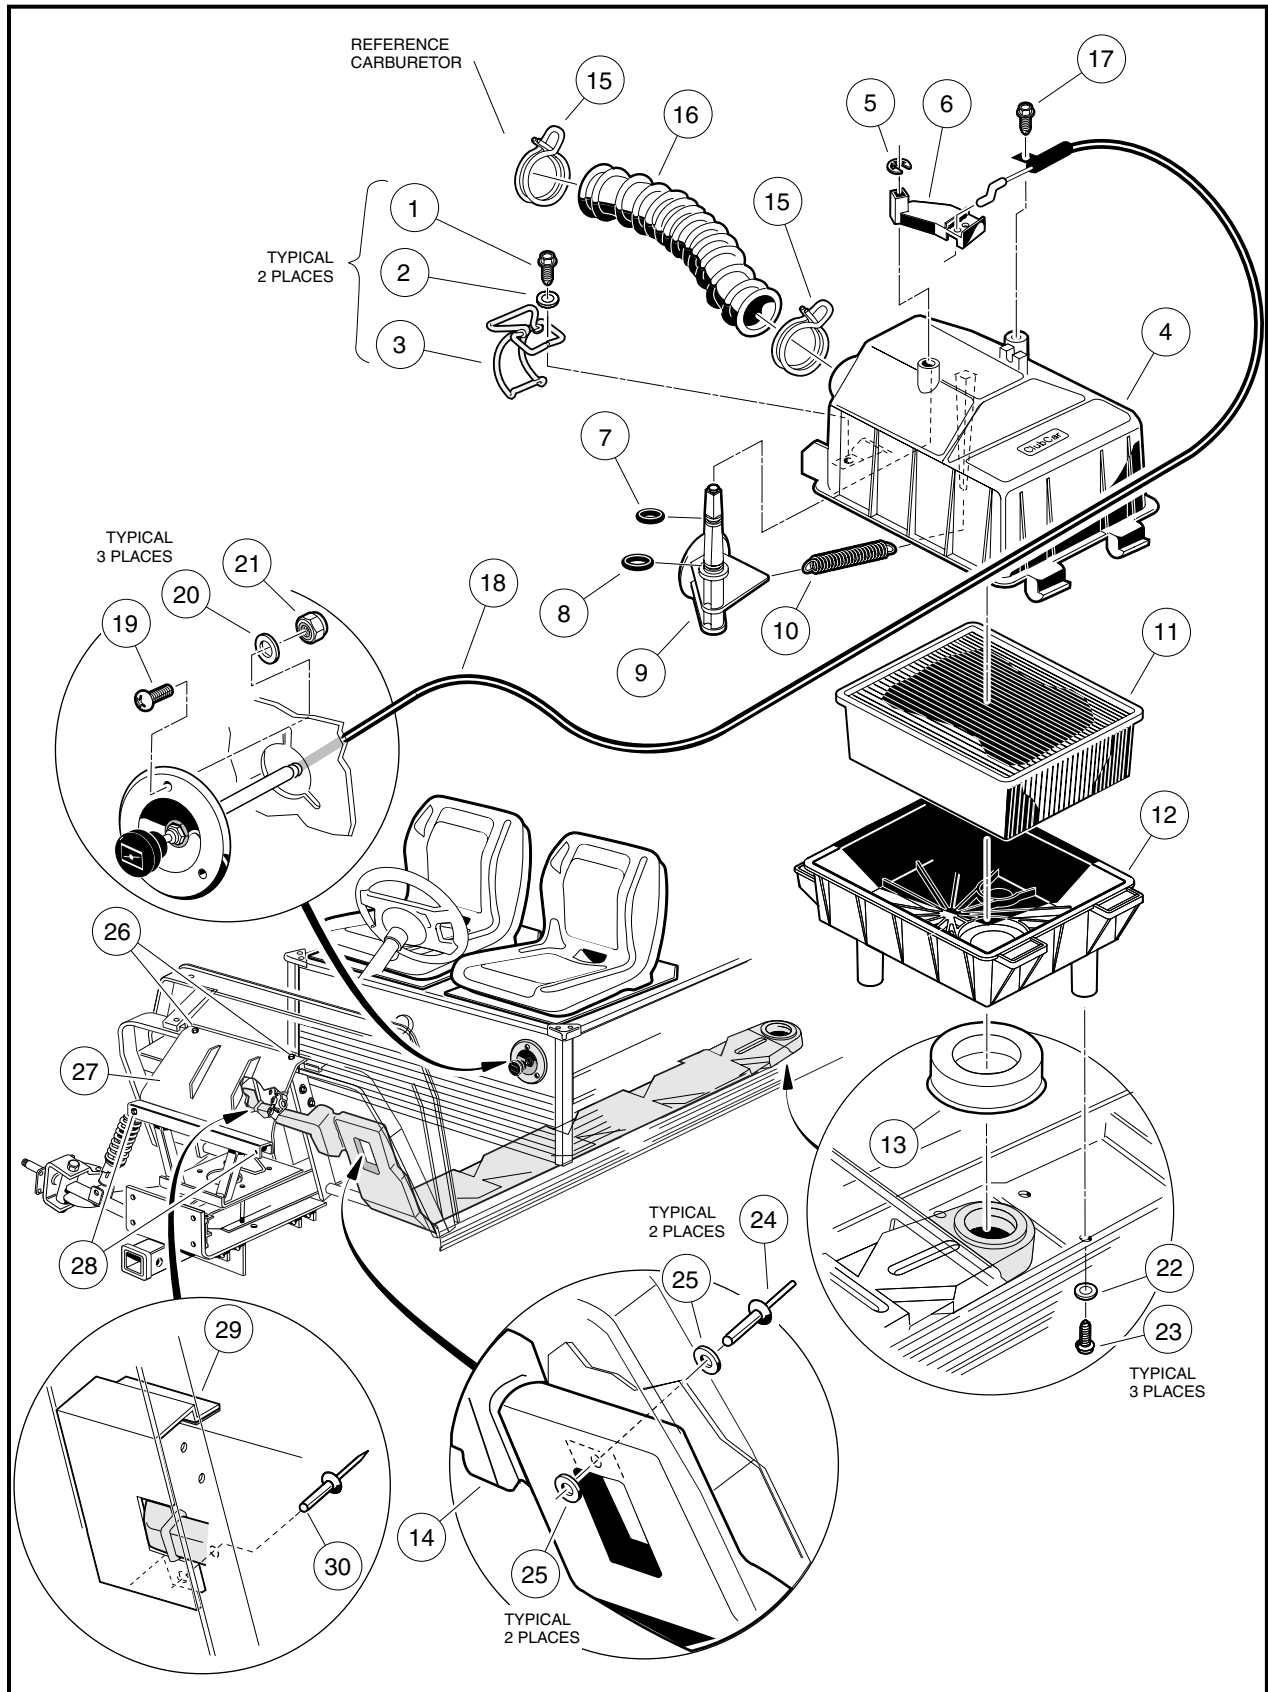
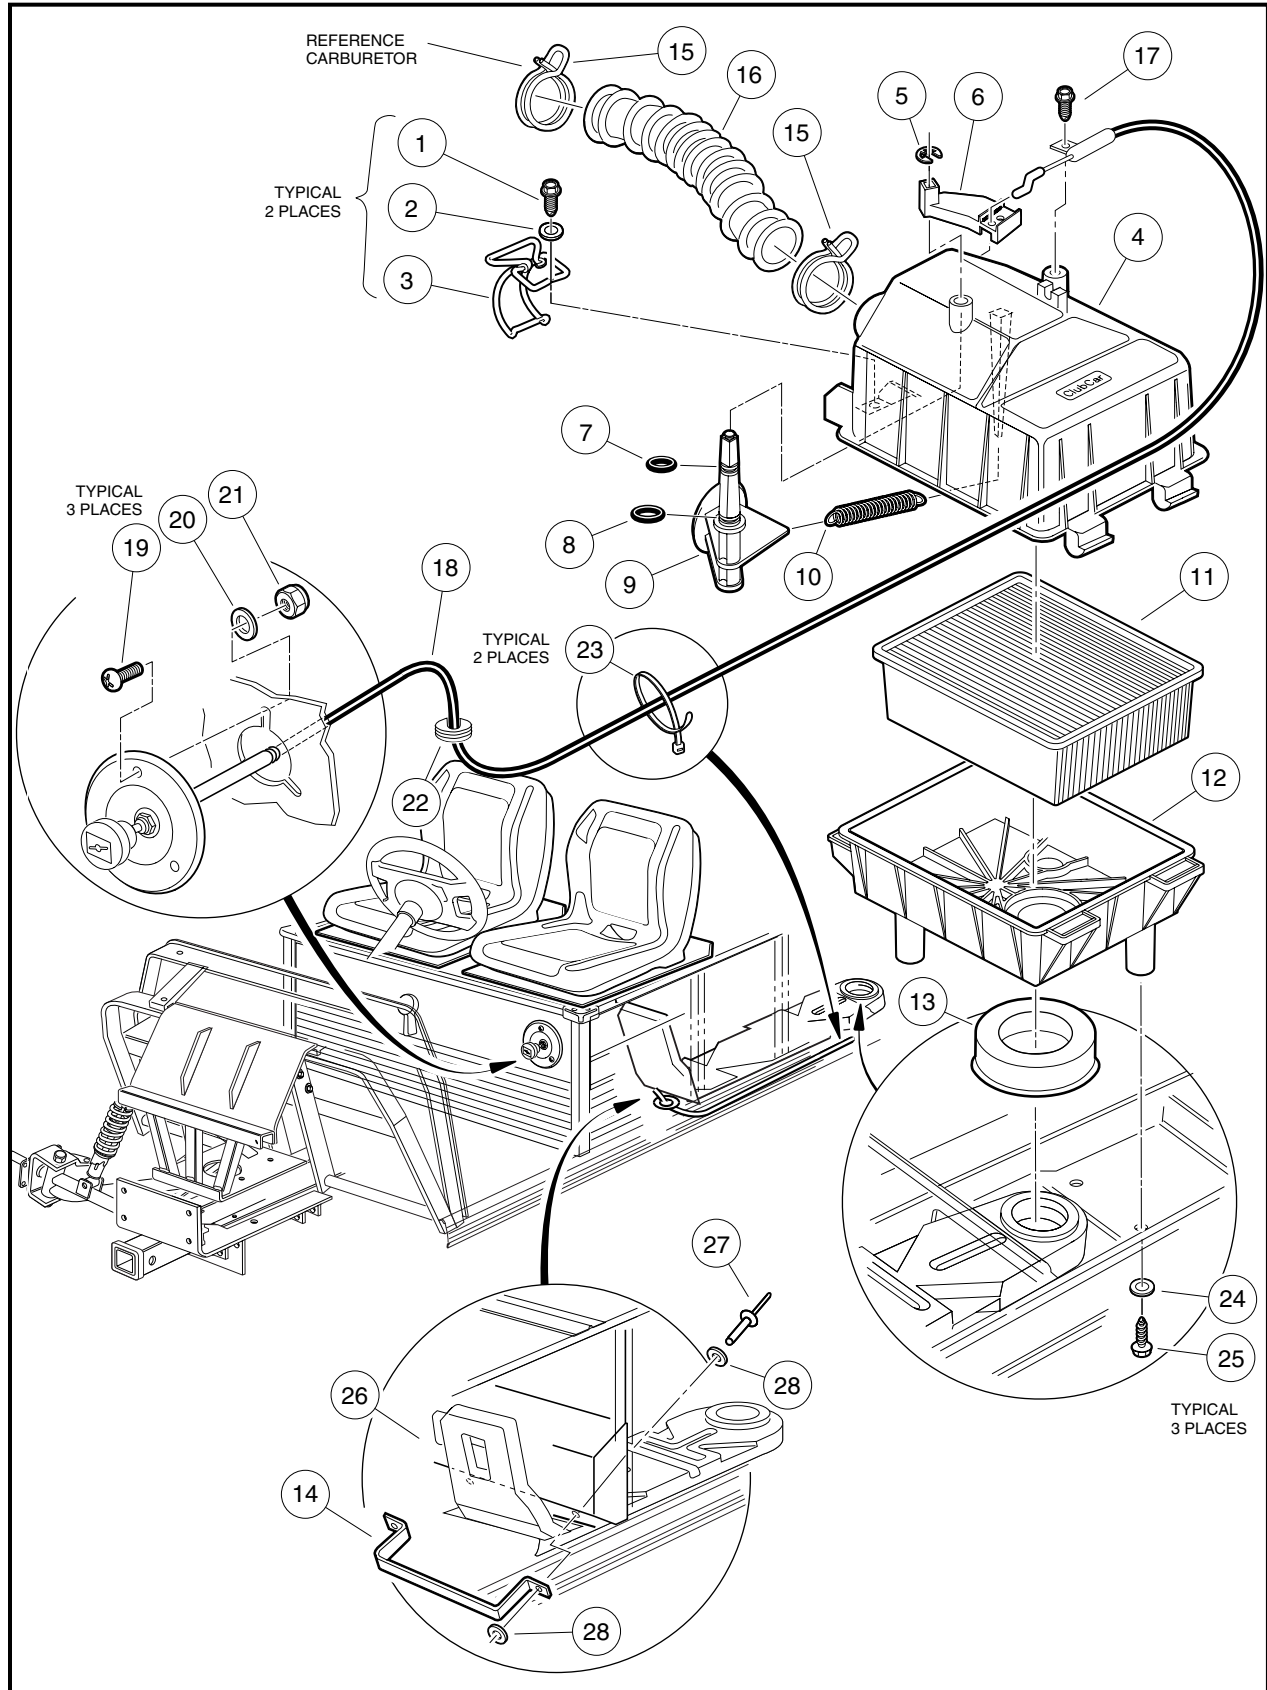

Figure 14-10 Pioneer 1200 Air Intake and Choke Assemblies
Figure 14-11 Pioneer 1200SE Air Intake and Choke Assemblies
- 2.13. Drill out the pop rivet (24) securing the top of the intake duct to the floorboard (**Figure 14-10, Page 14-17**).
- 3.1. Remove the air box assembly (**Figure 14-11, Page 14-18**). **See Air Box Removal on page 14-11.**
- 1.2. Secure the front of the duct to the underside of the floorboard with pop rivet (24) and flat washers (25) (**Figure 14-10, Page 14-17**).
- 1.6.1. Attach each of the front A-arms to the to the shock tower at the top shock mount and bottom hole locations of the strip plate (27) using bolts (28) and lock nuts. Do not tighten (**Figure 14-10, Page 14-17**).
- 2.2. Attach strap (14) on each end with 3/16-inch x 1/2-inch pop rivets (27) and washers (28) (**Figure 14-11, Page 14-18**).
2. Lift two latches (3) on the side of the air box (**Figure 14-10, Page 14-17 or Figure 14-11, Page 14-18**).
3. Remove the hose clamp (15) from the air hose and remove hose from the air box assembly.
4. Stand on the driver side of vehicle, grasp air hose mounting inlet and open and remove filter element (11).
7. Fasten wire latches (3) and make sure latches securely engage the bottom half of the box. **See following CAUTION.**
8. Install hose (16) and hose clamp (15) and make sure clamp ends are located in the 12:00 o'clock position (**Figure 14-10, Page 14-17 or Figure 14-11, Page 14-18**).